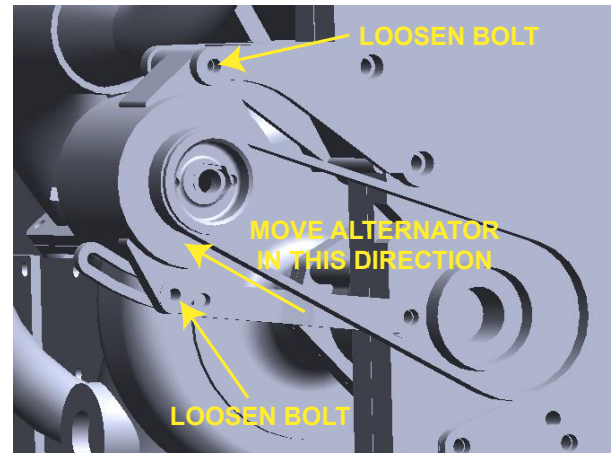

FIGURE 28 - DIESEL ENGINE DRIVE BELT
- Loosen the bolts that hold the alternator in position. The alternator has a slotted bracket and tension nuts that will release the tension on the drive belt. See FIGURE 28.
Rotate the drive belt tensioner in the counter-clockwise direction and re-install the drive belt. Make a visual inspection that the drive belt centerline is in alignment with the other pulleys. See FIGURE 28.